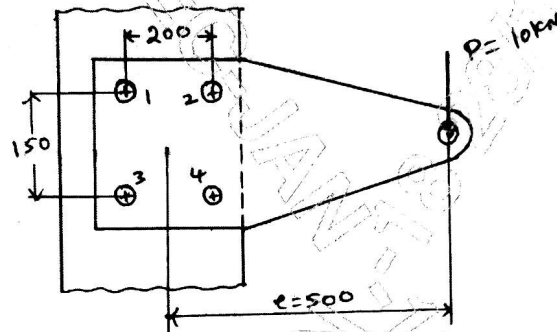

Fig.Q9(a)
- 9 a. The structure in Fig.Q9(a) is subjected to eccentric load $P = 10$ kN with eccentricity of 500 mm. All bolts are identical made of carbon steel having yield strength in tension is 400 MPa and factor of safety is 2.5. Determine size of bolt.